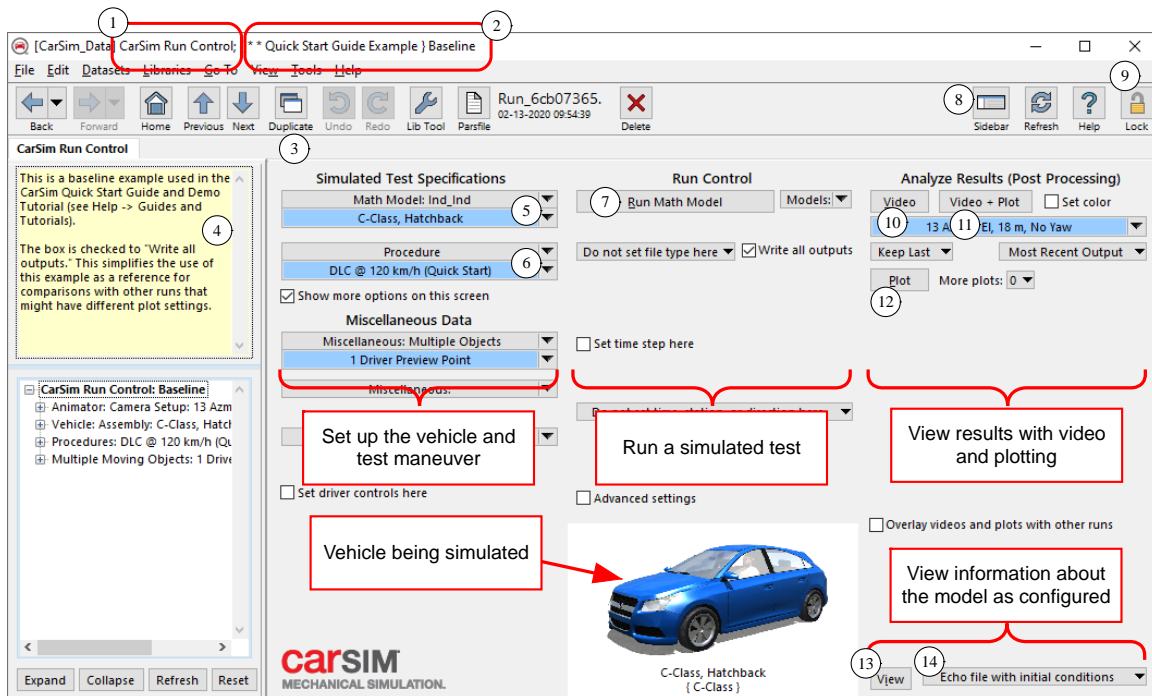

Figure 3. The Run Control screen in CarSim (Windows).
Run Control: The Home screen (Figure 3) shows the main screen of the CarSim Browser. The CarSim GUI screens are organized into libraries in the database folder. The current library name is shown in the Windows title bar (1), along with the title of the dataset in view (2).
You run a new simulation by clicking on the **Run Math Model** button on the **Run Control** screen (7), Figure 3, page 4). When you do this, CarSim performs several steps to run the simulation:
VS Visualizer is launched by clicking one of three buttons on the **Run Control** screen (Figure 3, page 4): **Video** (10), **Video + Plot** (11), or **Plot** (12). If video is to be shown, the camera settings are obtained from an **Animator: Camera** dataset located below the **Video + Plot** button (11). Plot datasets are typically linked on the **Procedures** screen (6) and can represent either the time history of an output variable or a cross-plot between any two output variables.